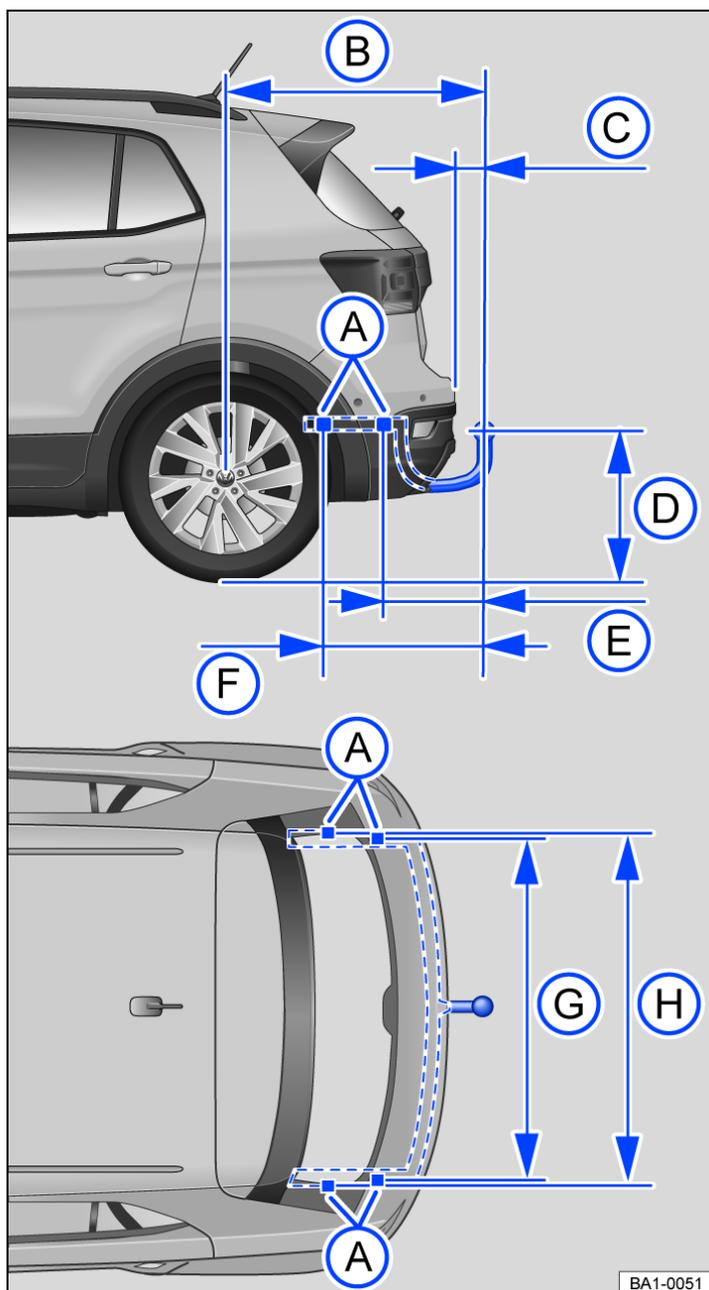

Fig. 1 Dimensions and mounting points for retrofitting a towing bracket.
The dimensions must be observed in all cases when retrofitting a towing bracket → Fig. 1. Always observe the minimum distance given from the middle of the ball coupling (D) to the surface of the road. This also applies when the vehicle is fully laden, including maximum drawbar load.
- (A) Mounting points
- (B) 798 mm
- (C) At least 75 mm
- (D) 350 - 420 mm
- (E) 333 mm